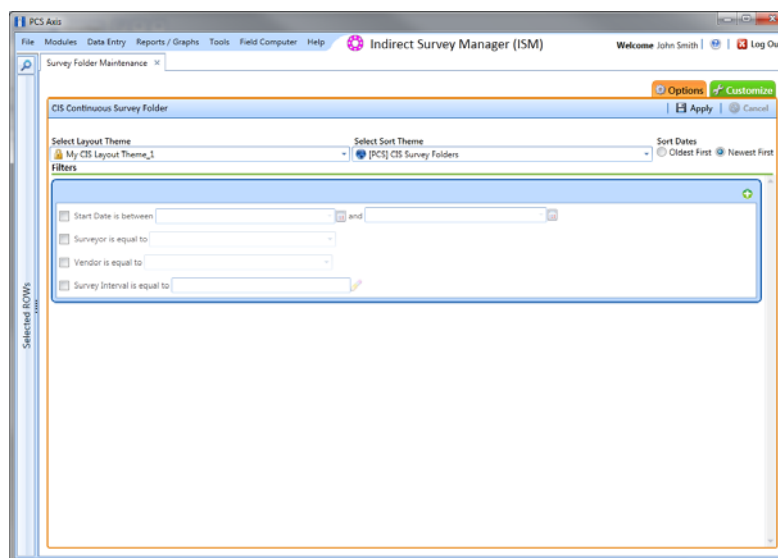

Figure 5-12. Options
- a Click the **Options** tab  to open the options page (Figure 5-12).